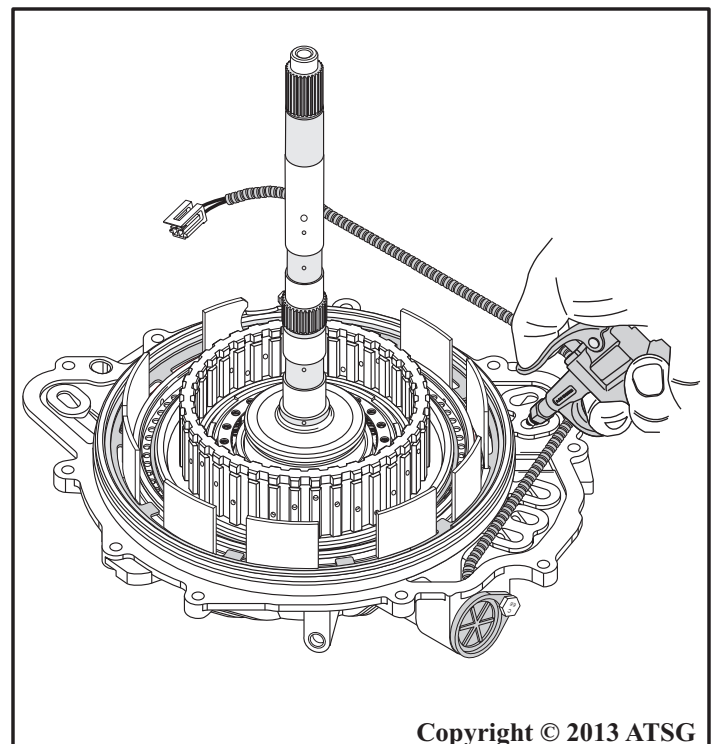

Figure 148
**Note:** You can install the housing into the completed rear cover with the number 11 thrust bearing in place, as shown in Figure 148, and carefully apply shop air to the 4-5-6 clutch feed hole to dislodge the piston.